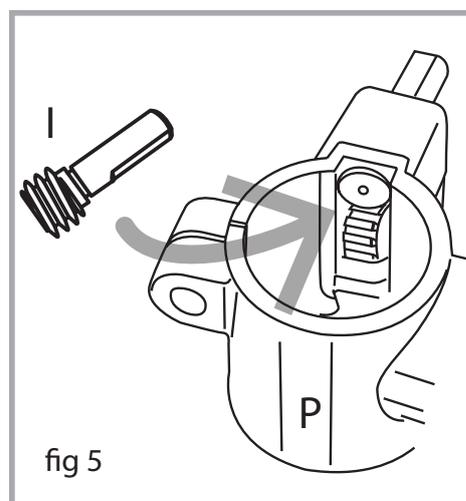

fig 5
3. Insert worm shaft (l, fig 5) through the center hole of the table support P, fig 5) and out through the crank handle hole as shown at right. The worm shaft should extend outside the housing about 1 in. (25 mm).